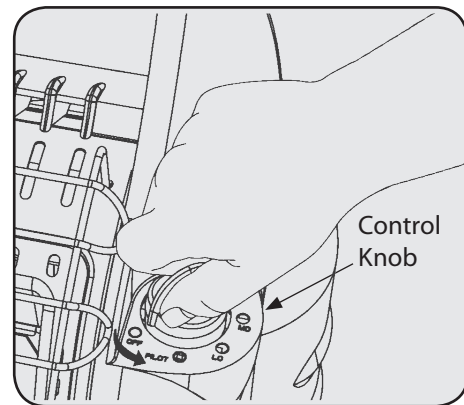

Figure 2
1. Make sure four-position Control Knob is in "OFF" position. See Figure 2.